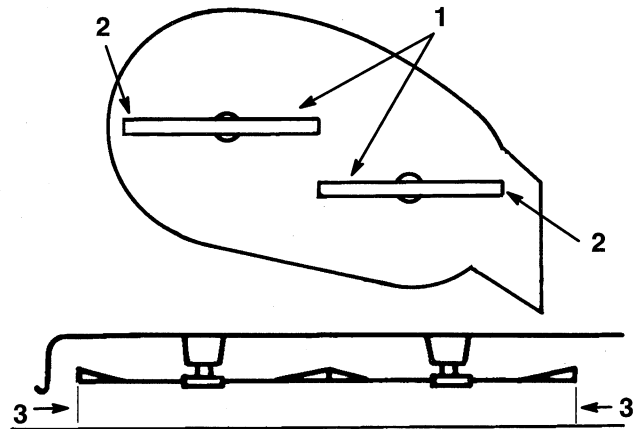

Figure 9
3. Carefully rotate blade(s) side to side (Fig. 9). Measure between the outside cutting edges and the flat surface (Fig. 9). If both measurements are not within 3/16" (4.762mm), an adjustment is required; refer to steps 4 and 6.
- Carefully rotate blade(s) side to side (Fig. 9). Measure between the outside cutting edges and the flat surface (Fig. 9). If both measurements are not within 3/16" (4.762mm), an adjustment is required.